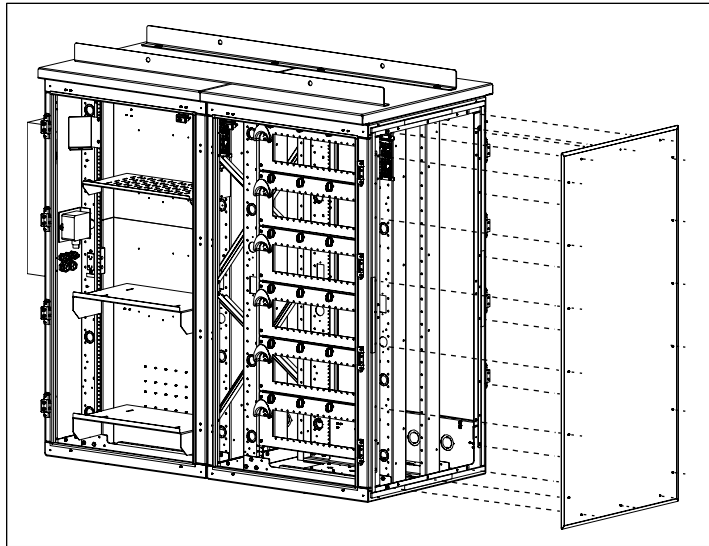

Figure 19 Remove Side Panel
1. The side panel on the MC-x installation is held in place by nuts on the inside of the cabinet. Remove the side panel from the MC-x bay by removing these nuts (Figure 19). Save this panel and its mounting nuts for re-installation.